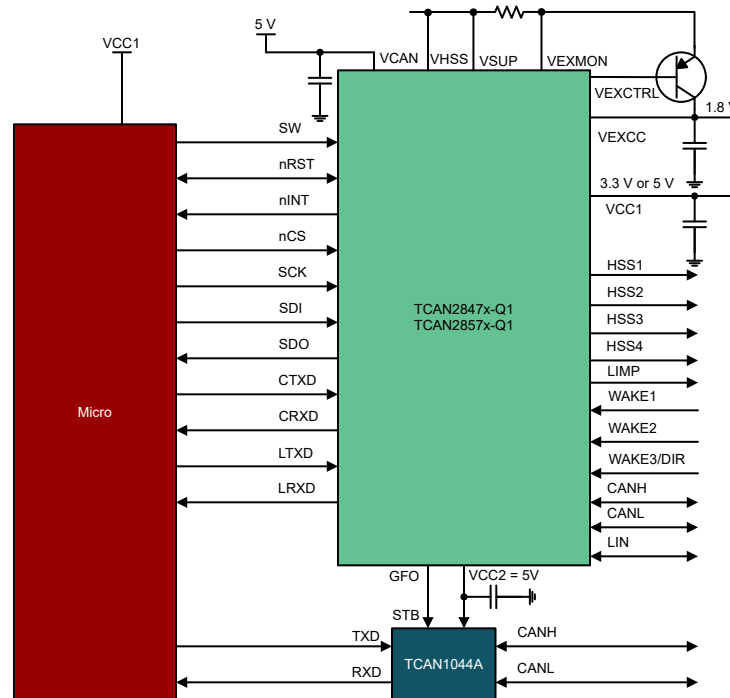

Figure 10-6. Channel Expansion with a CAN FD Transceiver
- Two CAN FD transceivers and a LIN transceiver by using the TCAN2847x-Q1 with an eight pin CAN FD transceiver, see Figure 10-6